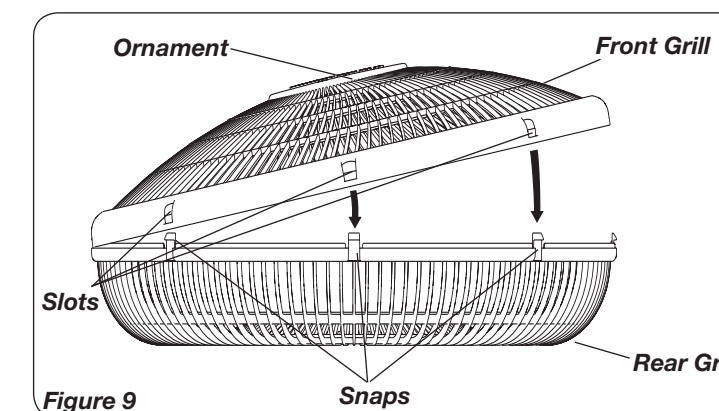

Figure 9
5. With fan head in upright position, align **Ornament** of **Front Grill** so it is horizontal and right side up. Starting with the top of the grill and working down, insert **Snaps** on **Rear Grill** through **Slots** in **Front Grill**. (**Figure 9**)